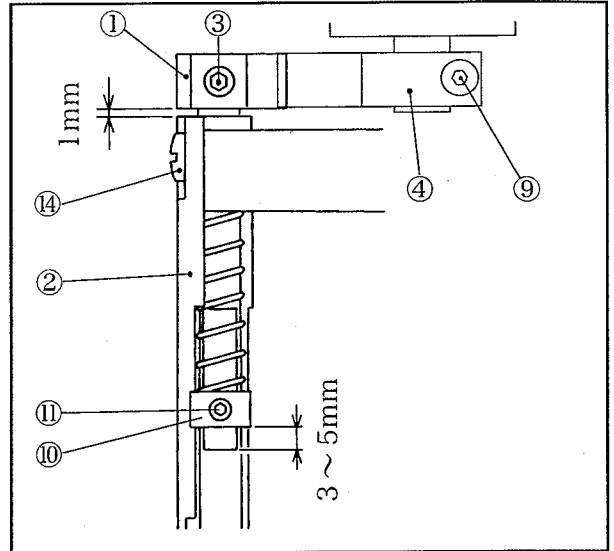

Fig.8
- 1) The position of collar ⑩ should be 3 - 5 mm from the edge of flat place on upper knife's shaft when the upper knife ⑦ and lower knife ⑧ are engaged. After loosening the screw ⑪, set the collar to the proper position. (Fig. 8)
- 4) Loosen the screw ⑨ on the drive gear ④ and adjust the upper knife ⑦ so that its home position is at an angle of 80° on the upper side of lower knife ⑧. (Fig. 8, 10)